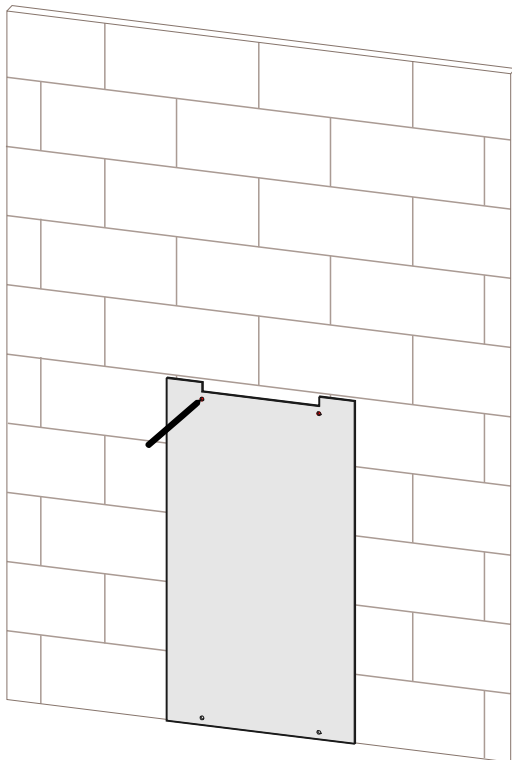

Figure3-8 Mark the battery drilling position
- Step 3 Place the battery positioning paper against the wall and the bottom against the floor, and mark the positions of the two drill holes, as shown in Figure3-8.